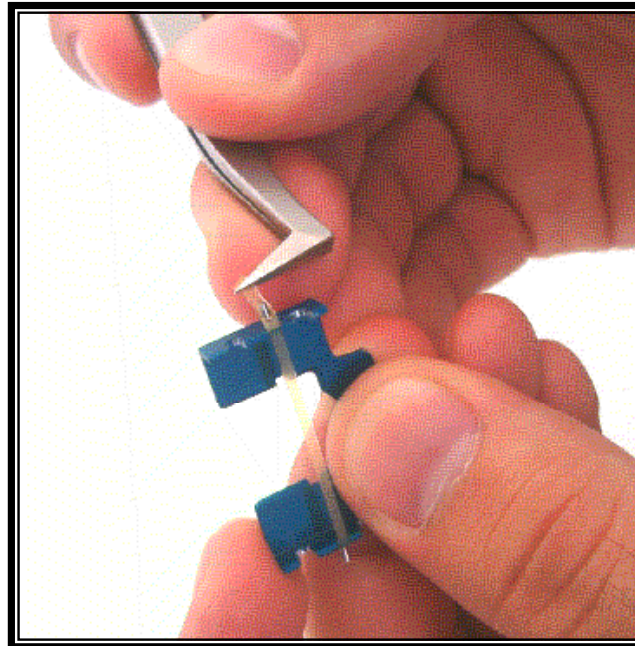

Fig. 2.26: Removing the rubber strip
3. Using the tweezers, remove one side of the rubber strip, holding it with the tweezers as shown in Fig. 2.26. Then, do the same with the other side, removing the rubber strip from the top part of the cantilever holder.